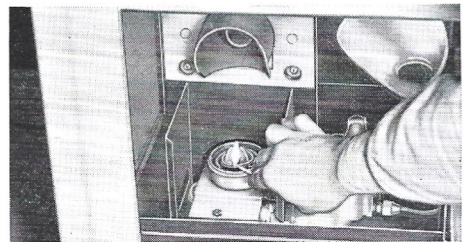

Fig. 12. Lighting the Burner
- (a) Ignite lighting wick after it has become moist with kerosene (Fig. 12).